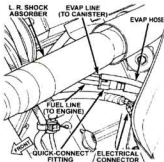
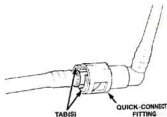

Fig. 1 Fuel Tank Connections
Fig. 2 Two-Tab Type Quick-Connect Fitting
4. Disconnect electrical connector at front of fuel tank by sliding red tab over and separating (Fig. 1).
5. Disconnect EVAP hose from EVAP line at front of fuel tank (Fig. 1).
6. Disconnect quick-connect fitting from fuel line at front of fuel tank (Fig. 1) by gently squeezing the two plastic retainer tabs (Fig. 2) together with your fingers. A tool is not required for removal and may damage plastic retainer. Gently pull apart.